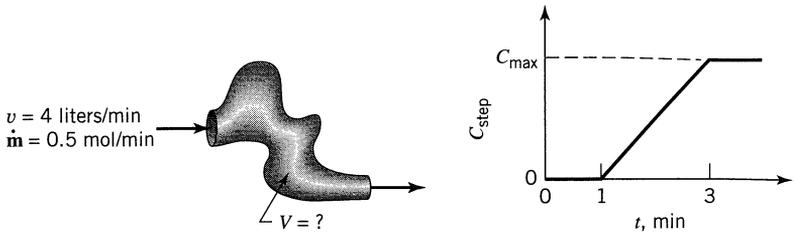

Figure P11.4
- 11.4. A step experiment is made on a reactor. The results are shown in Fig. P11.4.